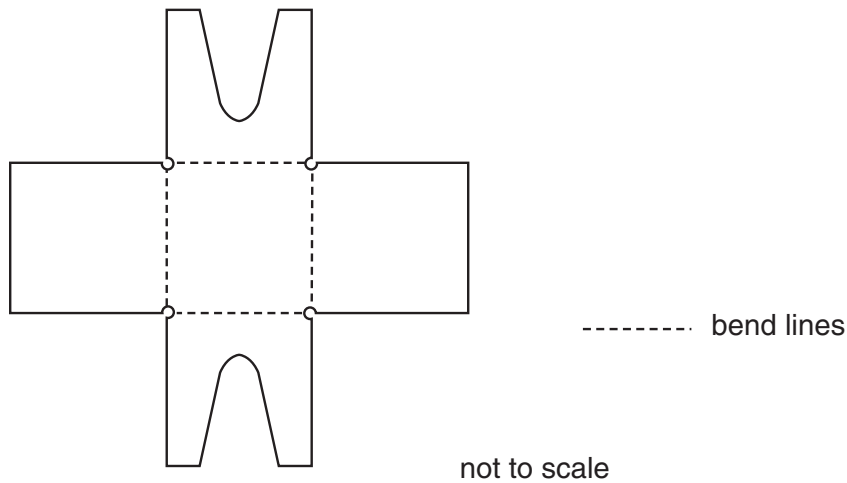

Fig. 2
- (c) The notelet holder could also be made from a single piece of 3 mm thick sheet plastic. Fig. 2 shows the development [net] for a notelet holder to be made from sheet plastic.